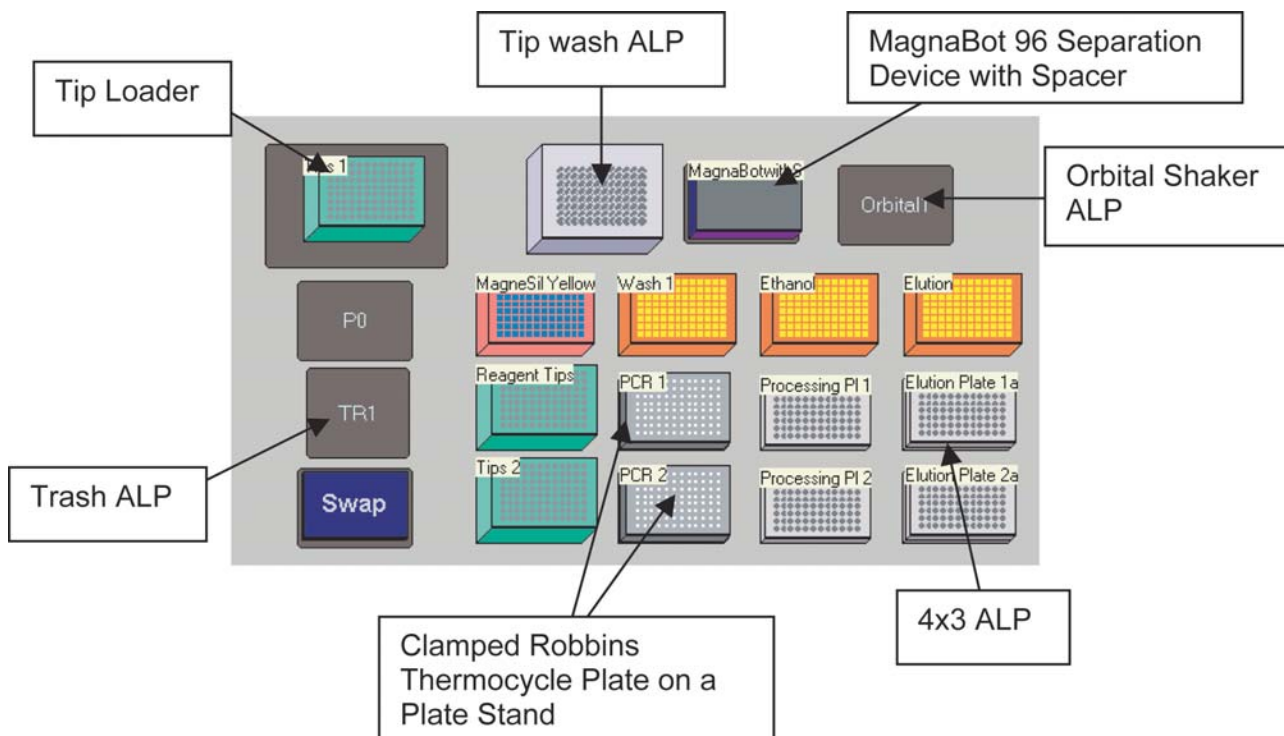

Figure 1. Starting Instrument Setup for PCR Purification using MagneSil chemistry and the MagnaBot 96 Separation Device.
The starting instrument setup on the Biomek FX is shown in Figure 1. All reagents and labware needed to process two plates of PCR products are placed on the worksurface of the Biomek FX. No user intervention is required after the initial deck setup. Specific directions for running the method are given in “Configuring the Biomek FX for PCR Purification with This Method,” below.
- Place all ALPs (Orbital Shaker, 4×3, Tip Wash Station, 1×1s, Trash, and Tip Loader) in proper positions (Figure 1). Make sure all active ALP hardware addresses are set to “0.”
- Place labware, tips, and reagents on the worksurface of the Biomek FX as indicated (Figure 1).